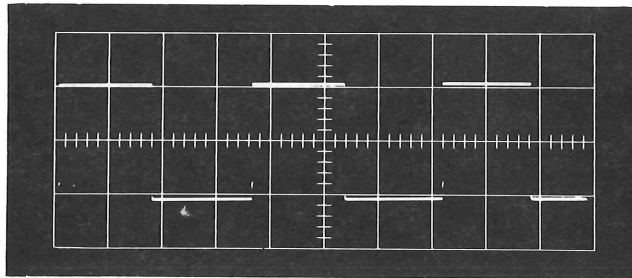

Fig. 3 Sweep rate 0.2 millisecond/div.
4. Slowly turn the bias control clockwise until the waveform amplitude suddenly increases to about 2 divisions (see Fig. 3). This point is the proper bias setting.
Figs. 3 and 4 show typical output signals from the Pulser at various sweep rates. The small intensified portion at the base of each pulse shown in Fig. 3 is the relatively slow rising portion of the calibrator signal just before the tunnel diode switches.